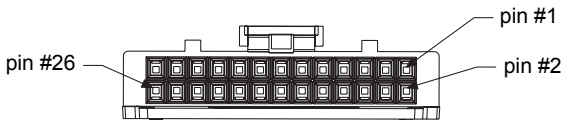
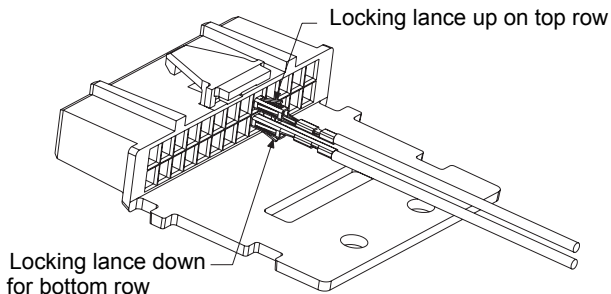

*Figure 1a Wire Strain Relief*
*Figure 1b Optional Strain Relief*
6. Route wires through connector as shown in *Figure 1a*, or for applications with multiple accessories connected to the mobile radio, route wires as shown in *Figure 1b* and use the cable tie to secure wires to the connector after completing step 7.